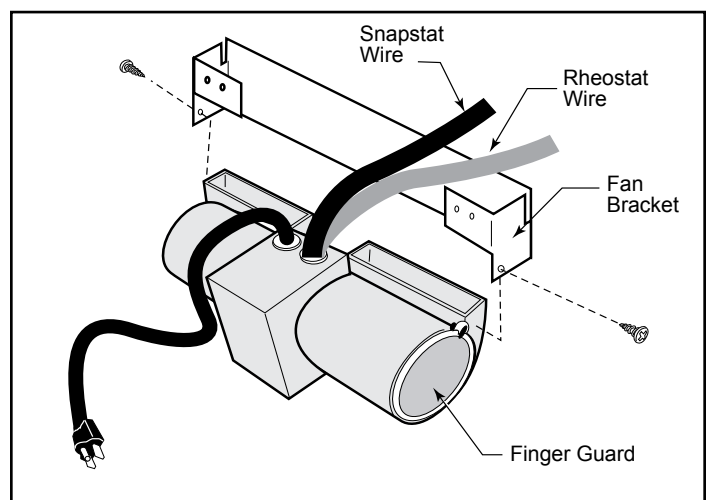

Figure 35 - Attach fan assembly to fan bracket.
4. Attach the fan assembly to the fan bracket provided in the log box that came with the stove. Use the #10 sheet metal screws provided with fan kit. Do not remove finger guard screws. (Figure 35)